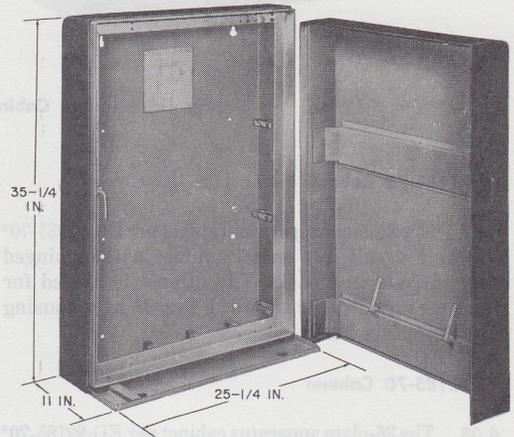

Fig. 14—18-Plate Equipment Cabinet per ED-91180-70
4.04 The 18-plate equipment cabinet per ED-91180-70* (Fig. 14) is a metal cabinet with a lift-off cover and hinged gate structure. It is drilled for wall or floor mounting.